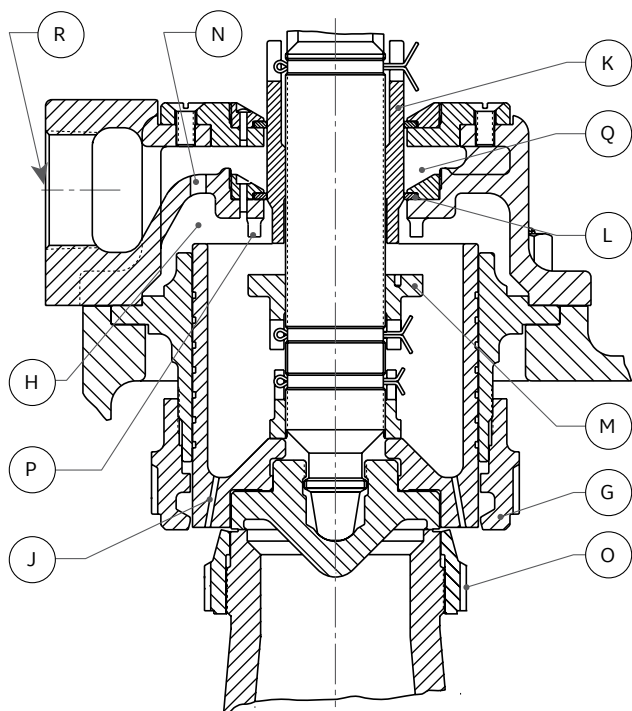
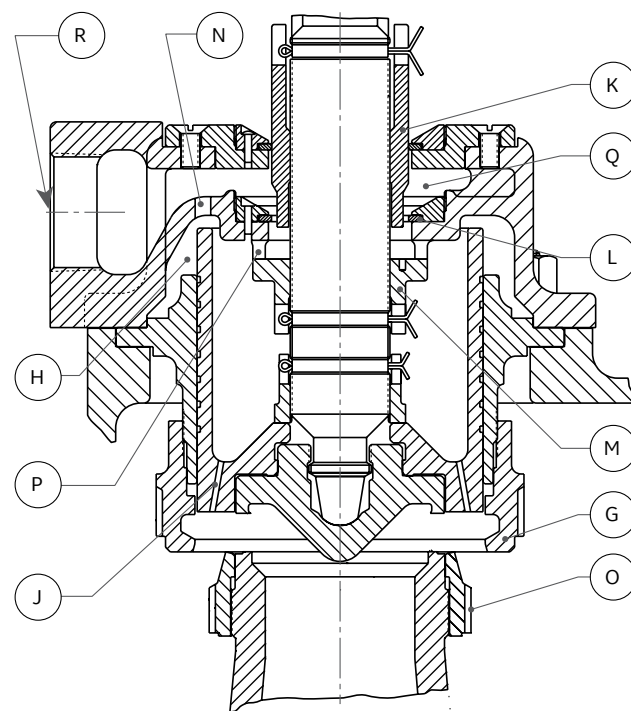

Figure 6: 100% Lift
Figure 7: Full Lift
In Figure 6, 100% lift is attained by proper location of the upper and lower adjusting rings (G) and (O), respectively. When full lift is attained, as in Figure 7, lift stop (M) rests against coverplate (P) to eliminate hunting, thus adding stability to the valve. When the valve discharges in an open position, steam is bled into